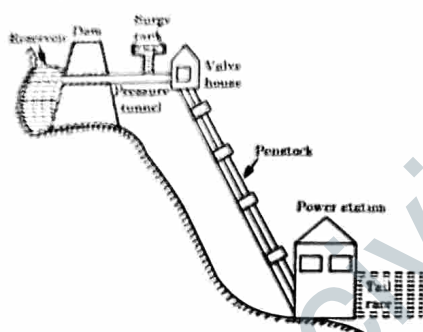

Fig. 4.26.1. General layout of a hydroelectric power plant.
- A. **General Layout** : Fig. 4.26.1 shows a general layout of a hydroelectric power plant in which an artificial storage reservoir formed by constructing dam has been shown.